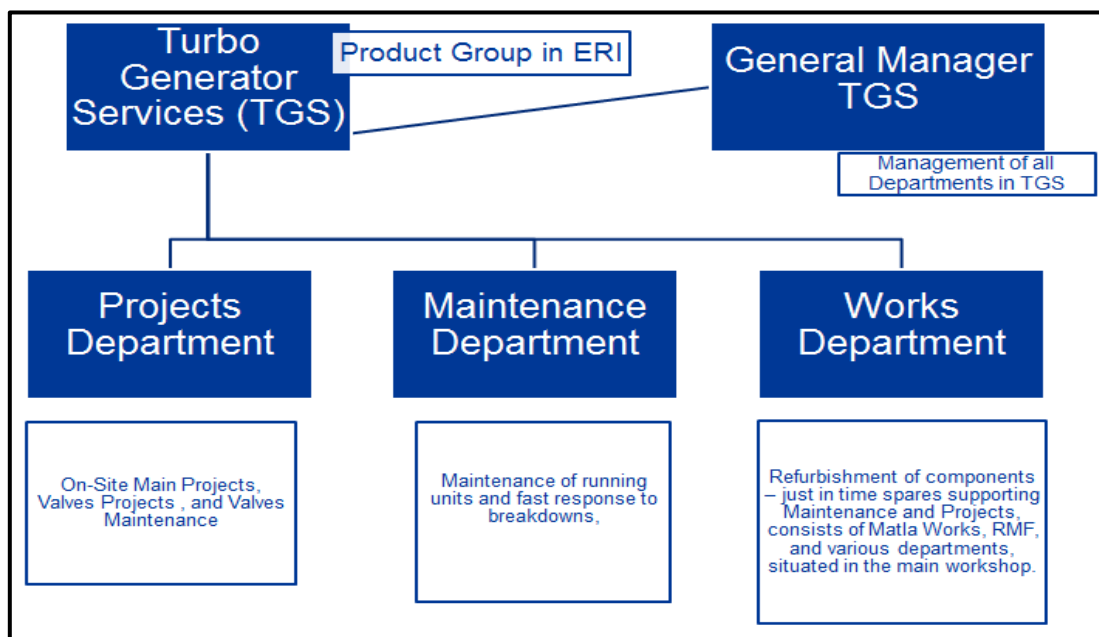

Figure 1: TGS Departments. (ERI - TGS, 2018)
- The content of this Scope of Work (SOW) defines the commercial aspects of contract management within TGS, technical work to be done on power stations relating to the TGS departments, and specifically defined requirements needed in order for Contractors to perform a full service for TGS. Figure 1 below shows the general departments within Turbo-Generator Services (TGS), one of the Product Group's within Eskom Rotek Industries (ERI). The word 'Contractor' is interchangeable with the word 'Service Provider'.